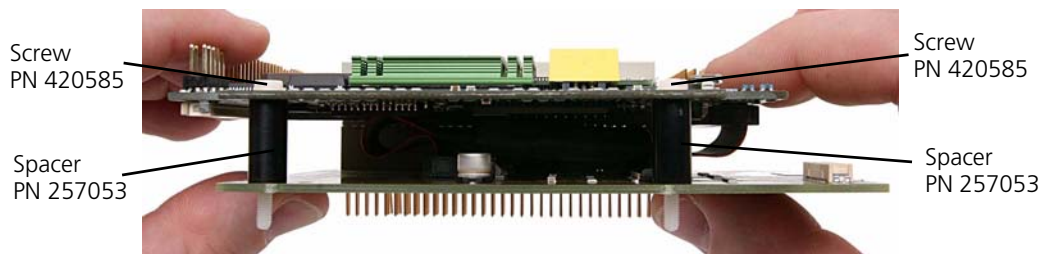

Figure 11-63. The screws and spacers in place
4. Apply the two white plastic screws, PN 420585, and the two cylindrical black plastic spacers, PN 257053, that you removed from the old GMP, to the other side of the new GMP assembly. (Figure 11-63.)